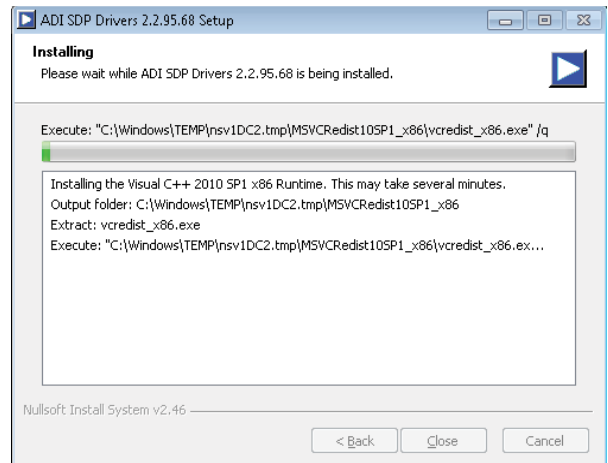

Figure 12. ADI SDP Drivers Installing
4. The installation begins and a progress bar is displayed (see Figure 12).